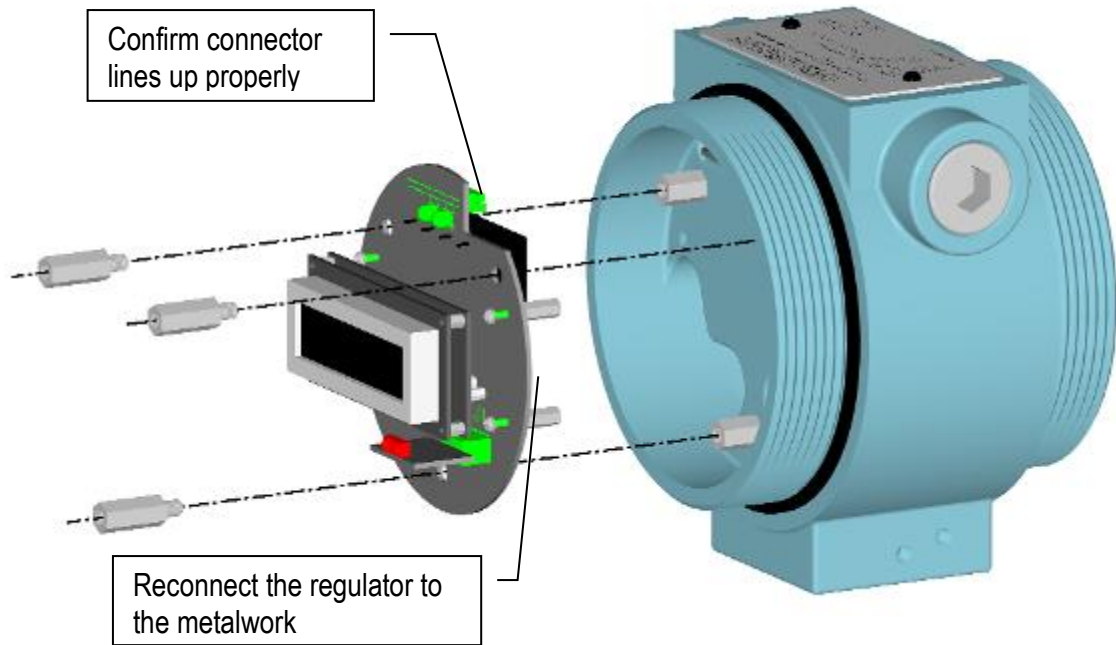

Figure 8.6: Power Supply/Display Removal/Installation
4. Unscrew the three standoffs to free the Power Supply and Display assembly from the transmitter body, and lift the assembly from the enclosure (Figure 8.6). Unscrew the power regulator as well (this is attached by wire on the backside of the PSB).